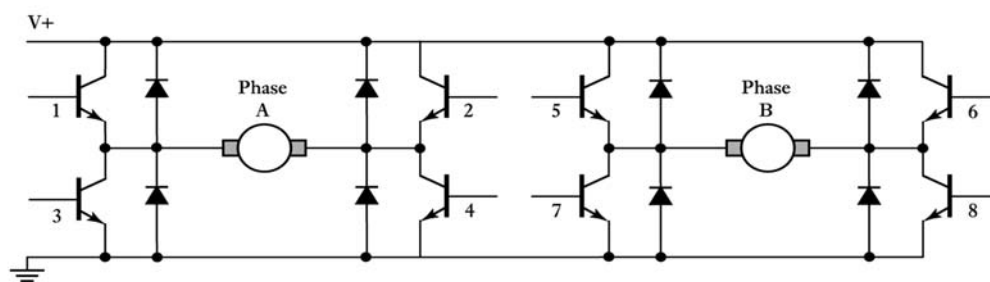

Figure Q2[c]
- [c] H circuit used to drive a bipolar two phase stepper motor is shown in Figure Q2[c]. Construct a table showing the switching sequence that required for completing one revolution in eight switching step. Calculate the digital input rate required to obtain a rotation speed of 12 revolutions per second.